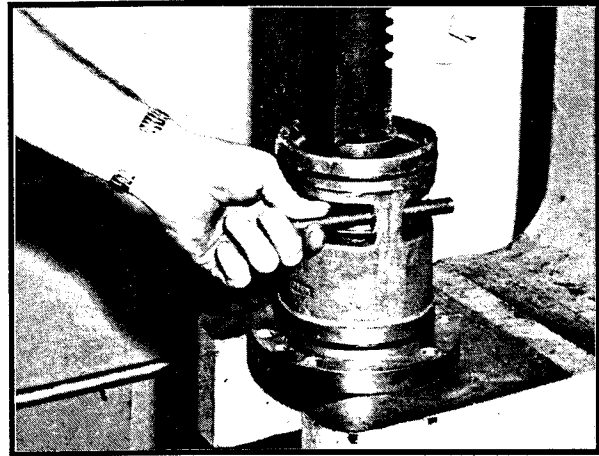

Figure 3-14 Inserting Wedges Through Port Openings
3. With extreme **CAUTION**, depress piston against spring until rectangular ports are cleared. An arbor press may be necessary to depress piston, depending on pressure exerted by the main valve spring. Block piston in open position by inserting suitable wedges through port openings. Reference Figure 3-14.